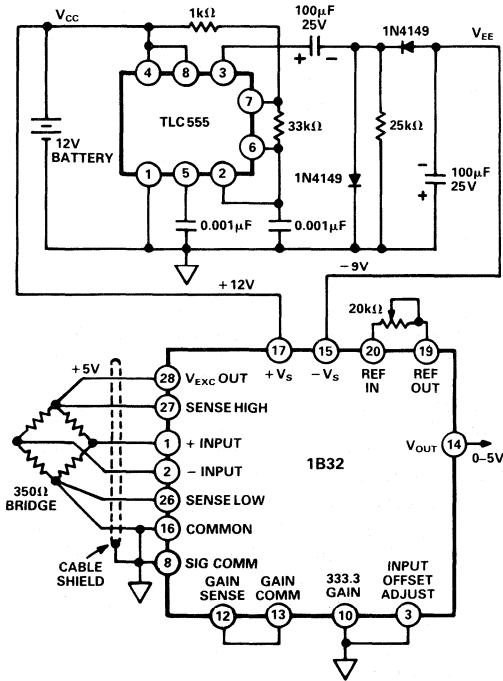

Figure 17. Negative Supply Generation for 1B32
**Mobile Transducer Applications:** The small size and reliability of the 1B32 make it an excellent choice for mobile applications. Since the 1B32 requires bipolar supplies, a possible circuit to provide the negative voltage is shown in Figure 17. The CMOS TLC555 is powered by a +12V battery, and typically draws 360µA. The output is a square wave that is rectified by the diodes and filtered to provide a -9V supply. Excitation voltage should be equal to or less than +9V for adequate headroom for the 1B32 voltage regulator. Note that the 1B32 will operate with ±9V supplies as long as the excitation voltage and the output range are less than 5V.